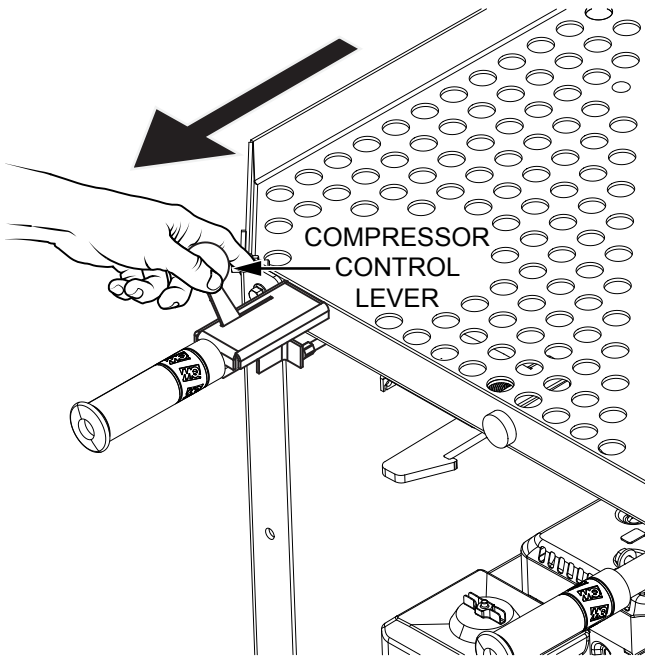

Figure 40. Disengage Compressor
- Slide the compressor control lever sideways to unlatch, then pull back on the lever to disengage the compressor (Figure 40).